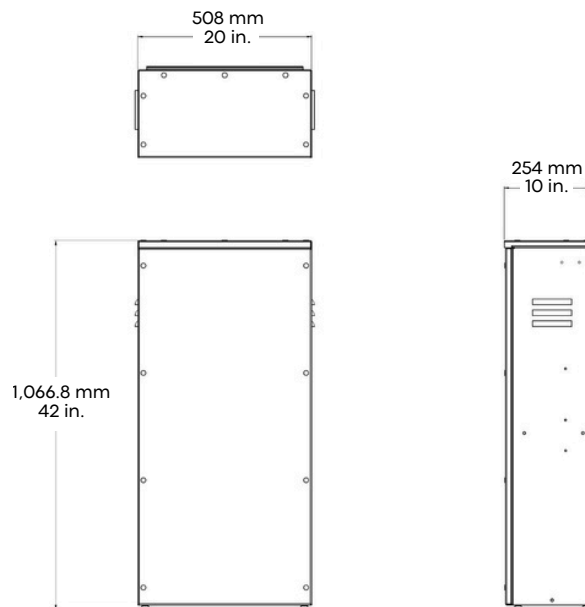

Figure 8
This bracket is not intended to support the weight of the NV14 or NV24. Instead, it is intended to prevent a tip-over hazard. The NV24 Optional Battery Cabinet has four (4) conduit landing locations identified by 1/4" (19mm) diameter indentations in the top right side and top left side of the enclosure (refer to Figure 8). It is the responsibility of the installer to determine the best location to punch for conduit knockouts.